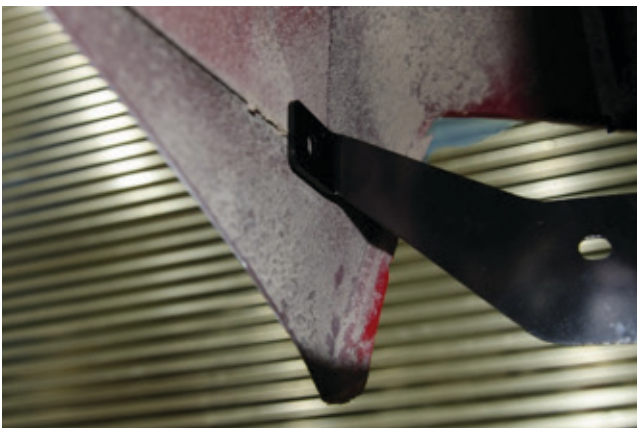

Figure 23
- B. Position new headlight bracket and mark material on the back side of the fender to remove (fig. 23).